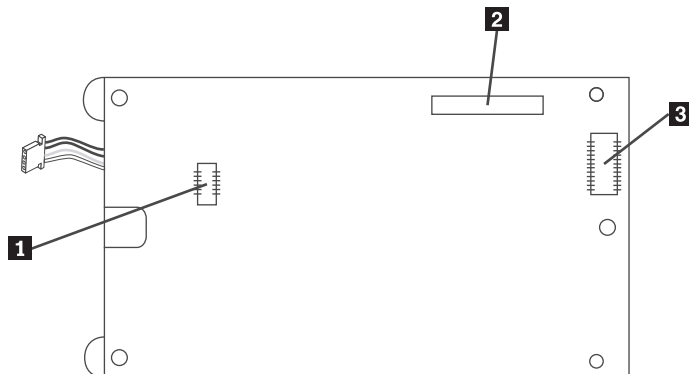
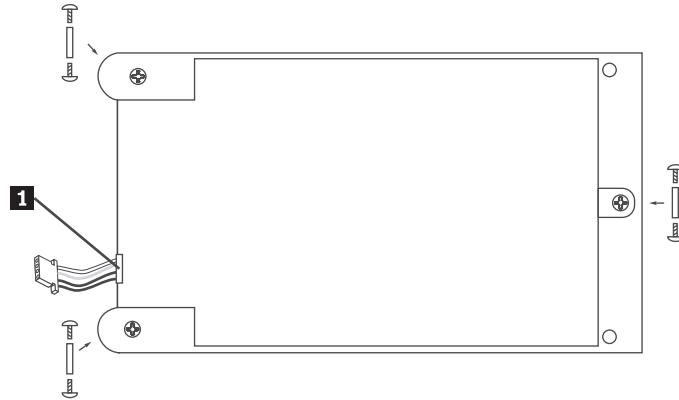
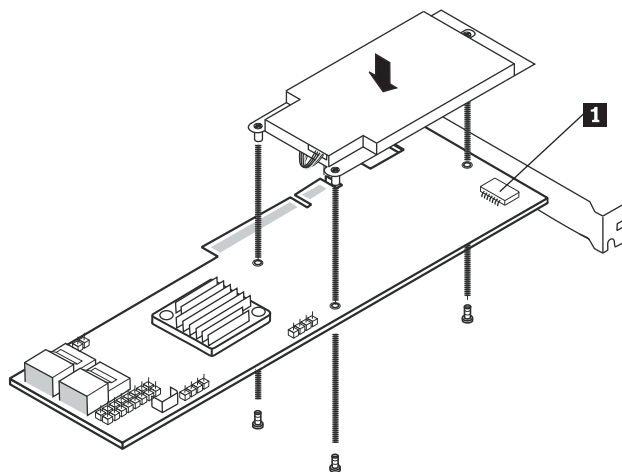

Figure 34. Bottom view
Figure 35. Top view
Figure 36. Installing the battery card assembly
- b. Insert the battery pack harness connector (as shown in Figure 35) into the 5-pin J3 battery pack harness connector (as shown in Figure 34 on page 47) on the backside of the battery card assembly.
- d. Hold the battery card assembly with the battery side up and the J2 board-to-board connector (as shown in Figure 34 on page 47) lining up with the J7 BBU connector on the RAID controller, as shown in Figure 36.